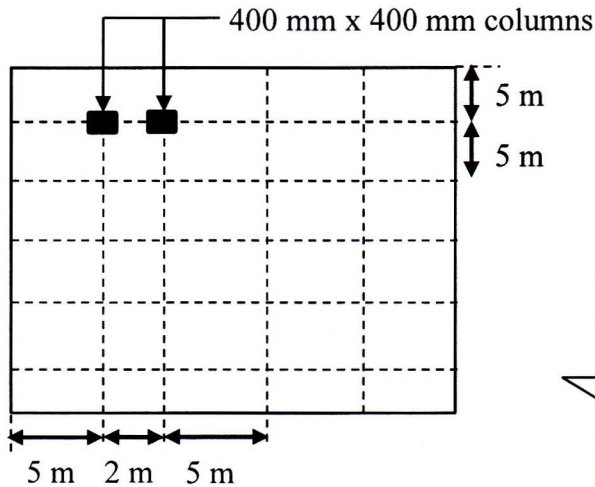

Figure 5: Layout of columns for combined footing
- a. Two interior columns (400 mm x 400 mm) as shown in **Figure 5** of RC structure is supported by combined footing. The dead and live loads of each column are 1200 kN and 350 kN respectively. The bearing capacity of soil is 120 kN/m². Design the footing for long span bottom reinforcements only. Assume the effective depth of the footing is 500 mm. [5]